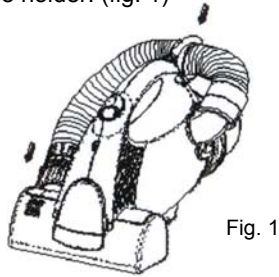

Fig. 1
1. Insert the dusting brush/hose connector into the brush chamber exhaust port. Lock the flexible hose in place by clipping the hose into the hose holder. (fig. 1)